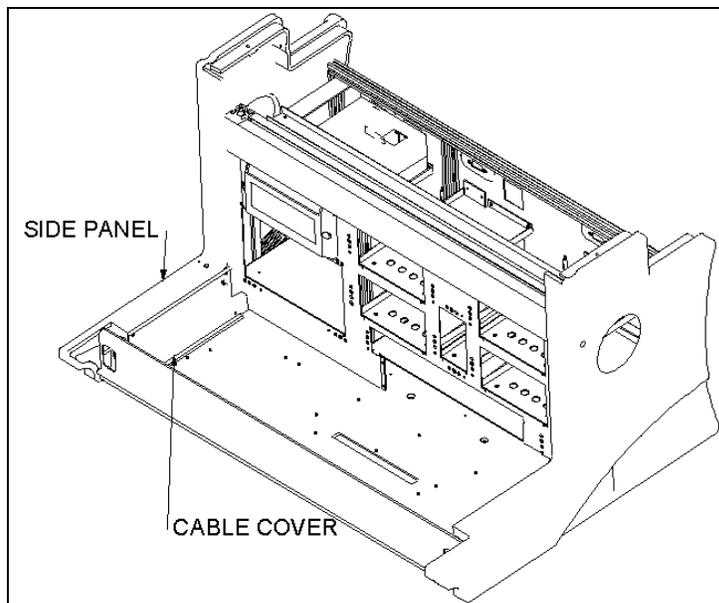

Figure 16-7 Left Cable Cover
- 1 Remove the left cable cover (Part No. 204023500) by removing the four M4 x 8 BHCS Screws (Figure 16-7).